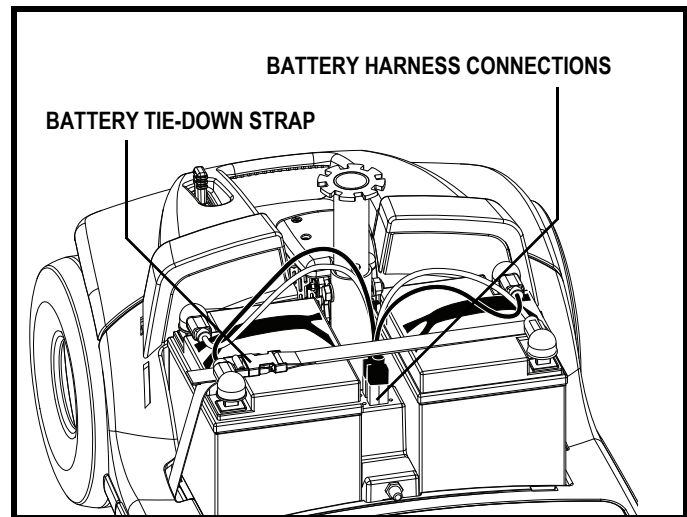

Figure 20. Harness Connections
4. Unplug both battery harnesses by pulling each harness straight up. **See figure 20.**
6. Connect both battery harnesses. **See figure 20.**